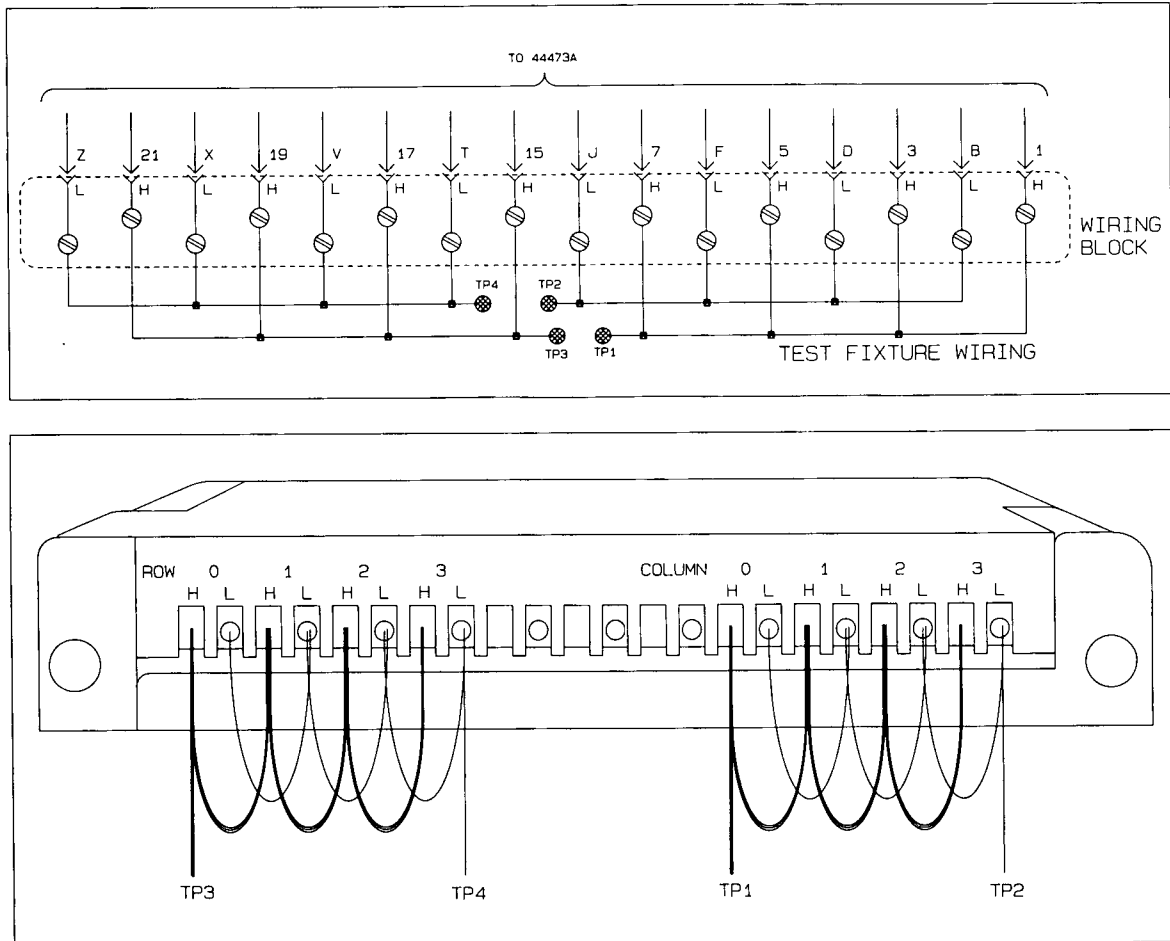

Figure 11-3 44473A Test Fixture
a. A test fixture is available from Hewlett-Packard (HP part number 03488-66501). The advantages of this fixture are (1) it requires no assembly and (2) it can be used to test the 44470A, the 44471A, the 44473A and the 44474A plug-in cards without modification.
b. A test fixture can be constructed by configuring an HP 44483A removable wiring block as shown in Figure 11-3. This particular test fixture can only be used to test the 44473A.